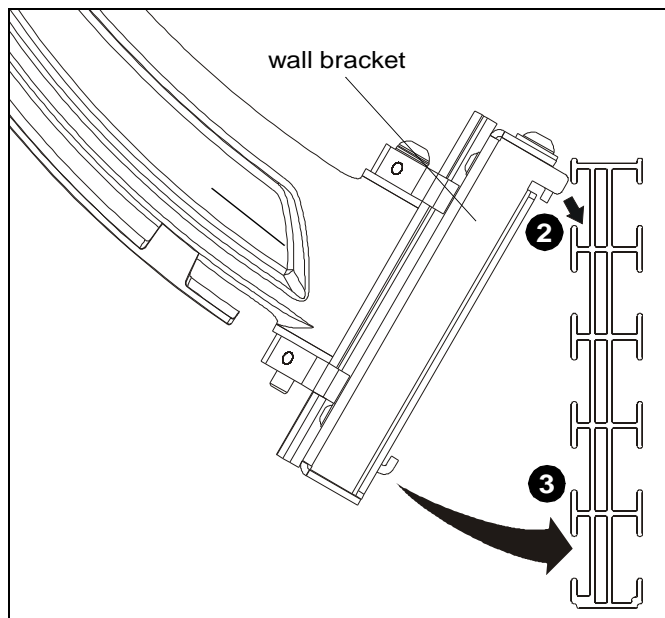

Figure 1
2. Hang wall bracket of mounting arm (A) onto slat wall at desired mounting location by inserting the upper mounting plate into wall track. (See Figure 1)